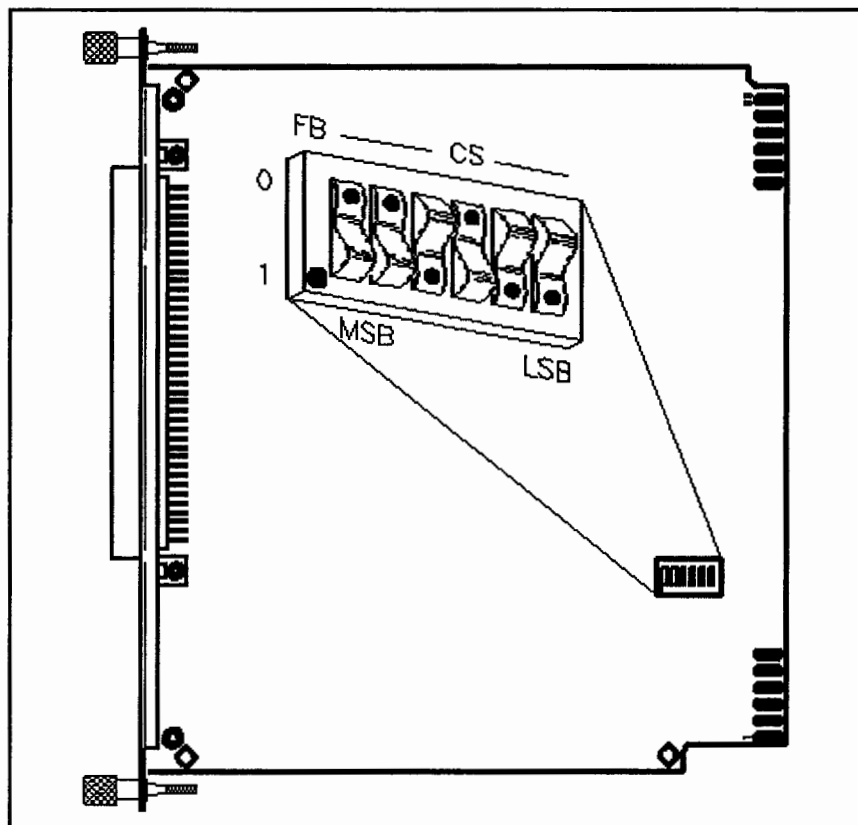
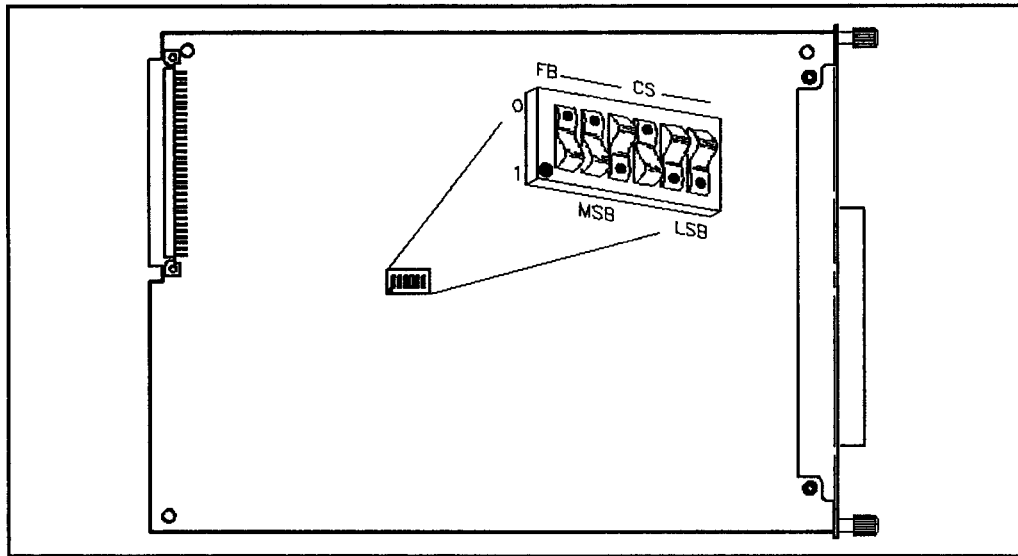

Figure 4-78.
Figure 4-79.
If this is the first (or only) LGB card you are installing and you want to use the Graphics Display Controller as the system console, you can skip to step 3. Your LGB interface card has been preset to an internal addressing mode (as shown in Figure 4-78 and Figure 4-79).
- a. Find the set of six switches labeled "SW1" on the HP 98724A/25A interface card (see Figure 4-78 and Figure 4-79). The switch labeled "FB" determines the Frame Buffer address, and the other five switches labeled "CS" (for Control Space) determine the interface's select code. This interface requires two sequential select code values.